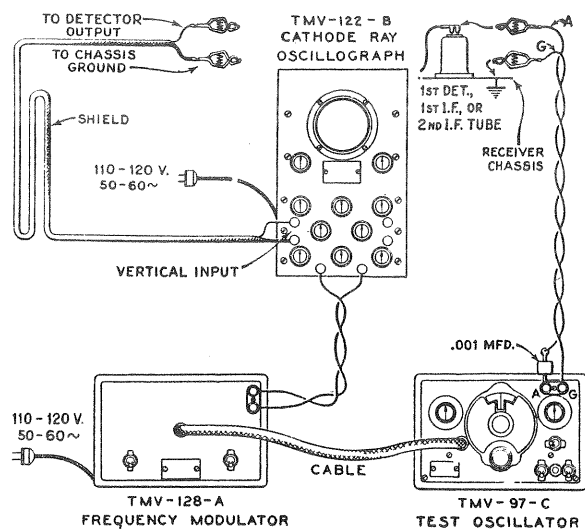

Figure 5—Alignment Apparatus Connections
Figure 5. A .001 mfd. capacitor installed in series with the Oscillator "Ant." lead will prevent the voltages of the stage under alignment from becoming upset. The vertical "A" amplifier should be "On" for the ensuing adjustments and the gain control kept at its maximum position. For each adjustment, the Oscillator output need be regulated so that the image obtained
- (b) Attach the output of the test Oscillator between the control grid cap of the RCA-6K7 i-f tube and chassis ground as shown typically by Figure 5. Tune the Oscillator to 460 kc. and set its modulation switch to "On". Regulate its output until the signal produces a wave pattern on the Oscilloscope screen, adjusting the Oscilloscope controls to give the desired number of cycles. Cause the image to stand still on the screen by manipulation of the frequency and synchronizing controls. Then carefully tune the two trimmers C-29 and C-30 of the second i-f transformer to produce maximum amplitude (vertical deflection) of the oscillographic image. Under this condition the transformer will be sharply resonated to 460 kc.
in operation and interconnected with the Full Range Oscillator by means of the special shielded patch cord. Figure 5 shows the proper arrangement. Set the Frequency Modulator sweep range switch to its "Lo" position and turn the Oscillator modulation switch to "Off". Change the timing control of the Oscilloscope to "Ext." and place the range switch to its No. 2 position. Then carefully shift the tuning of the Oscillator so as to increase its frequency, until two distinct and similar waves appear on the Oscilloscope screen and become exactly coincident at their highest points. These curves will be found to occur at an Oscillator setting of approximately 540 kc. They will be identical in shape but appearing in reversed positions. Adjust the frequency control of the Oscilloscope in order to cause the waves to conform with the above requirements and to make them remain motionless on the screen. This will require a setting of approximately  $\frac{1}{2}$  clockwise rotation of the frequency control. The trimmers C-29 and C-30 should then be re-adjusted so that the two curves move together and become exactly coincident throughout their lengths, maintaining the maximum amplitude at which this condition can be brought about.
(a) With the receiver range switch in its Band A position, tune the station selector until the dial pointer is at a reading of 1720 kc. Adjust the test Oscillator to 1720 kc. (modulation "On" and Frequency Modulator disconnected) and increase its output to produce a registration on the Oscillograph. Carefully align the oscillator, detector and antenna trimmers C-20, C-10 and C-3 respectively, so that each brings about maximum amplitude of output as shown by the wave on the Oscillograph. It will be necessary to have the timing control of the Oscillograph on "Int." for this operation. After each trimmer has been peaked, the Oscillograph timing control should be set to "Ext." and the Frequency Modulator placed into operation with its connections to the Oscillator and Oscillograph made in accordance with Figure 5. Turn the modulation switch of the Oscillator to "Off" and retune the Oscillator (increase frequency) until the forward and reverse waves show on the Oscillograph and become coincident at their highest points. Adjust the trimmers C-20, C-10 and C-3 again, setting each to the point which